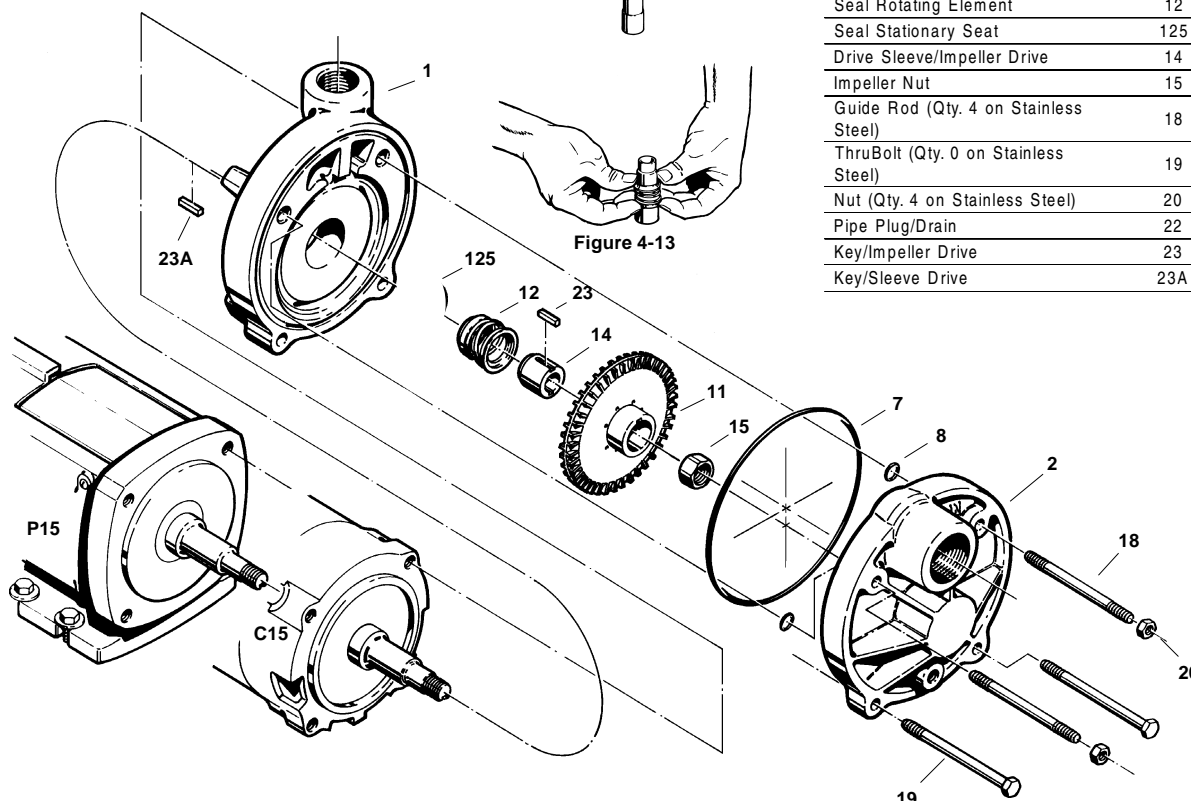

Figure 4-11
- i. Slide the hub and spring assembly over the shaft until the hub is properly seated and the spring is positioned correctly on the rotating element head previously installed. Refer to Figure 4-11 and 4-12.